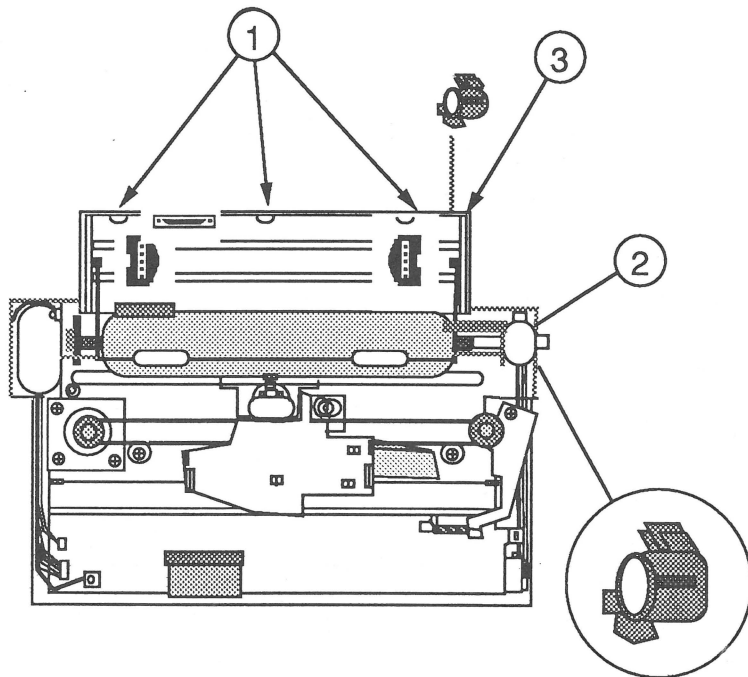
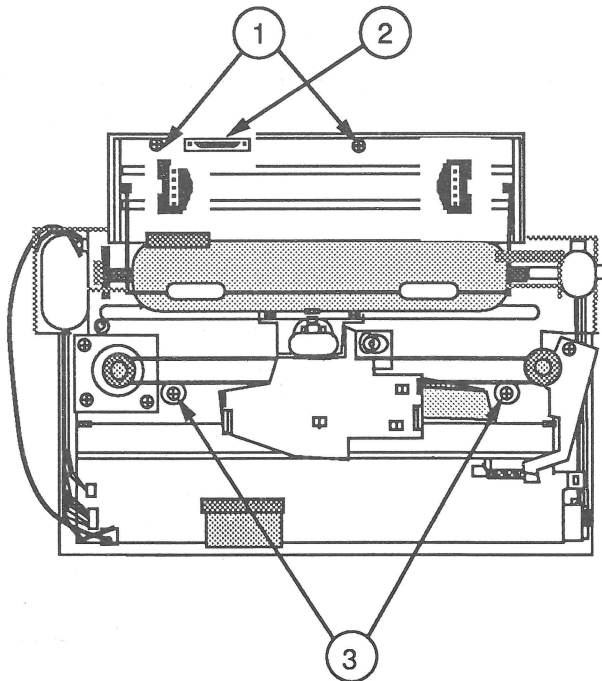

FIGURE 26
FIGURE 27
5. Remove the black plastic friction adjustment piece (Figure 26, #2) that has been supporting the frame at the right rear of the printer (Figure 26, #3) and put it back on the platen shaft, making sure that the teeth engage the gear properly. Also make sure that the sheet feeder sensor plug is exposed and its wires are securely underneath the frame and not being crushed.
6. Reseat the frame in the printer by gently pushing back on the rear of the printer case and lowering the metal frame down under the three tabs of the case (Figure 26, #1). The frame is seated properly when the two white plastic plus-sign-(+)-shaped flanges, next to the shock mount screws (Figure 27, #3) on the bottom are fully exposed and no part of the frame is resting on them.
7. Replace the two black shock mount screws at the bottom of the frame (Figure 27, #3). (The shorter screw mounts on the right side.)
8. Replace the sheet feeder sensor plug and its connector plate (Figure 27, #2).
9. Replace the two screws (Figure 27, #1) located above the tractor assembly that secure the upper mechanical assembly frame to the printer case.